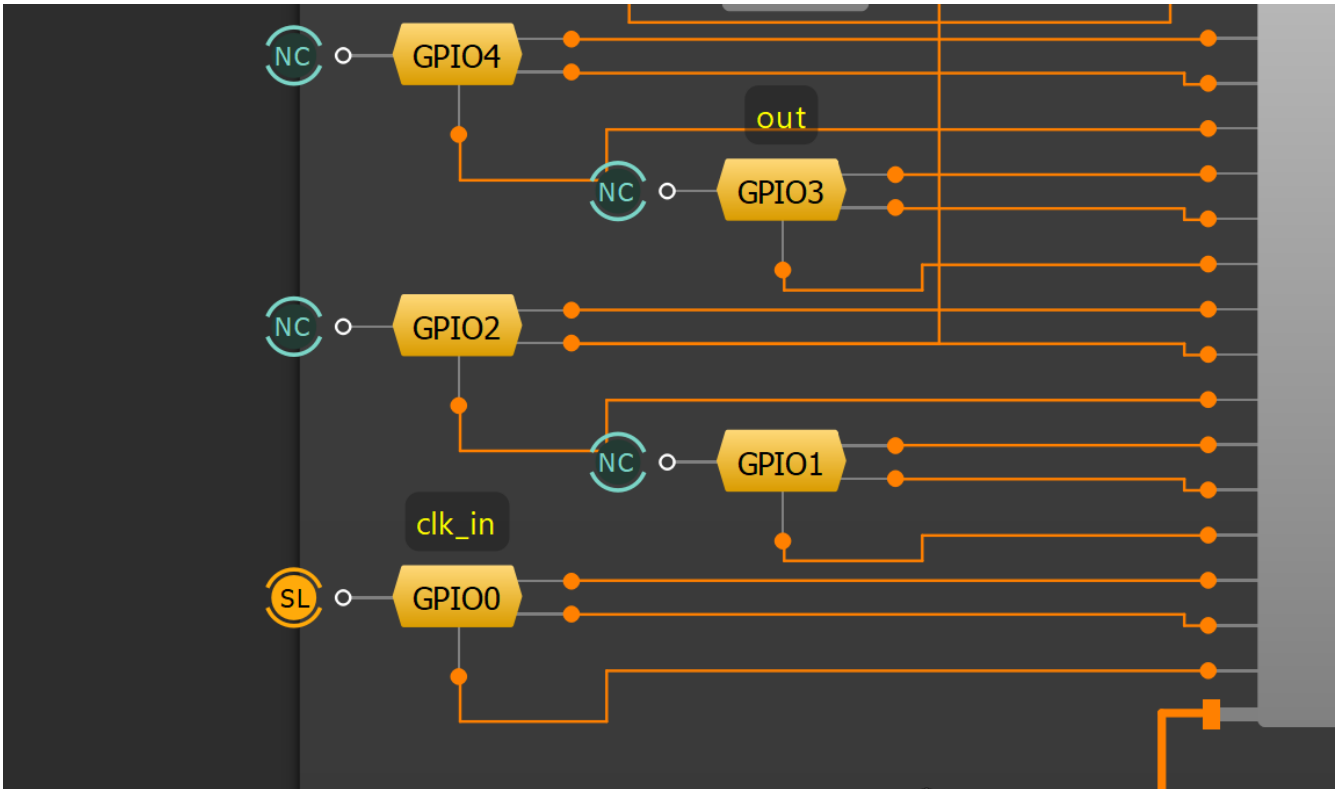

Figure 4: GPIO Connection
9. Connect the Development Board and attach it to Adaptor Board with the SLG47910 part in the socket on it. Click on the Debug button on the ForgeFPGA Workshop studio and select Emulation (Figure 4).